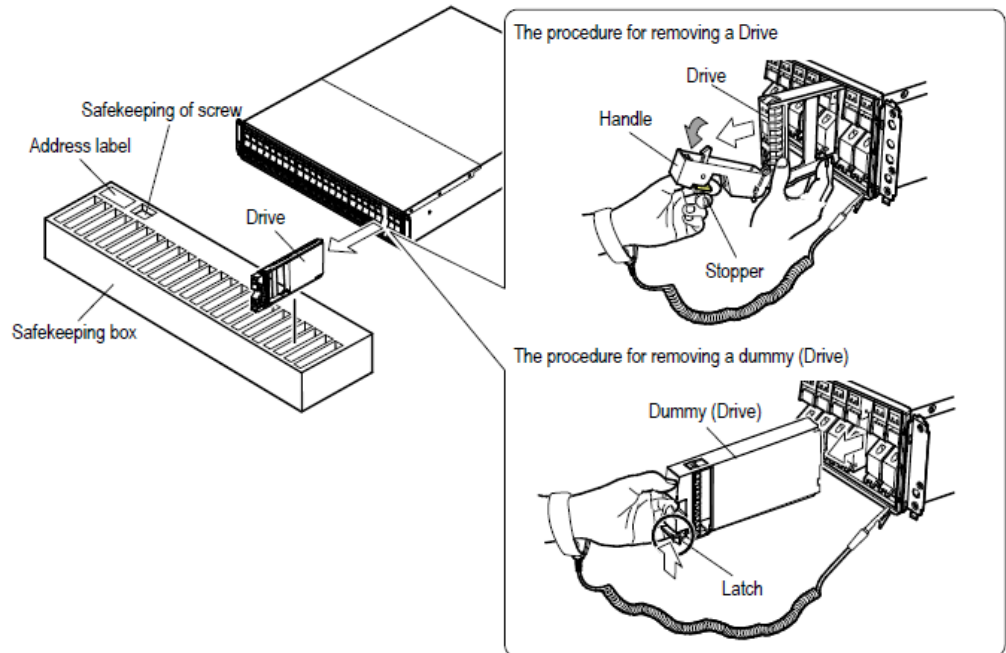

Figure 15-9: Removing a drive from a DBS Drive Box
1. Pull the stopper of the handle toward you to set the lock off (see Figure 15-9).